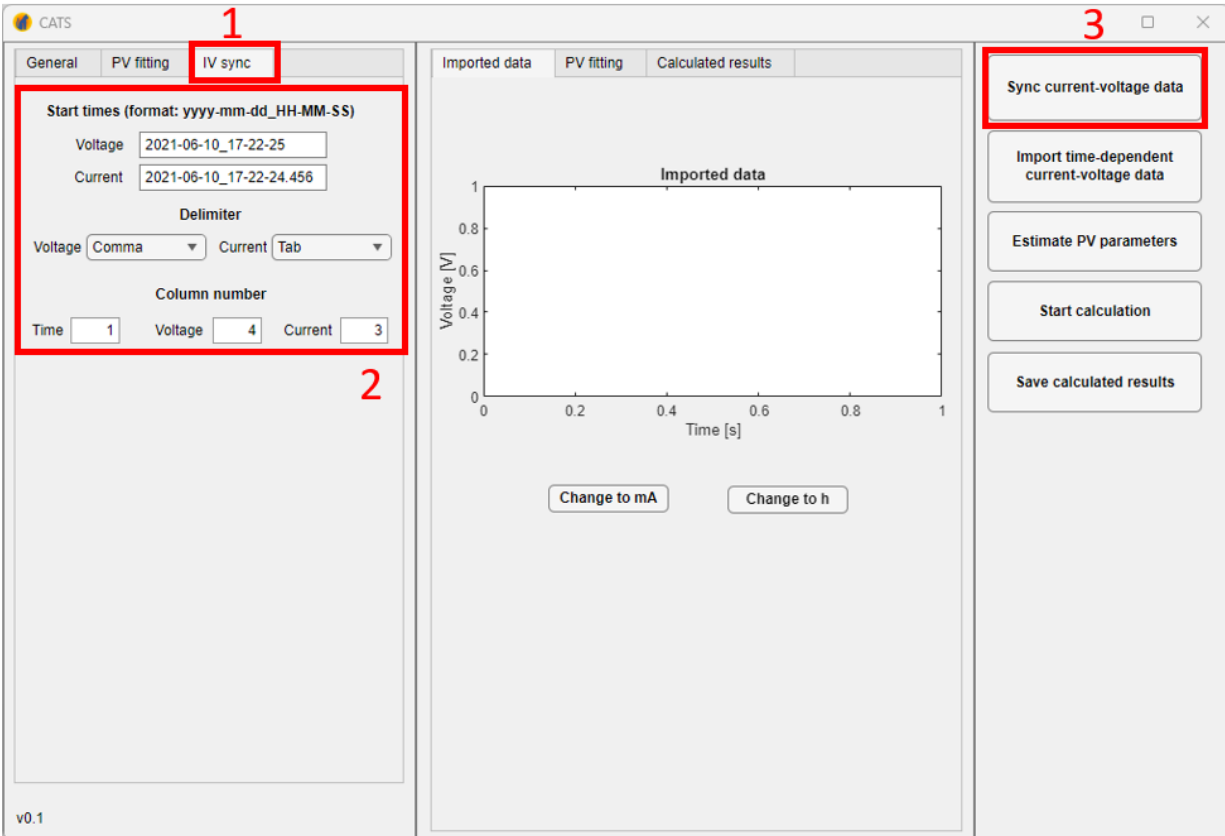

Figure 1. Synchronize current and voltage data
1. If the recorded current and voltage data are saved in separate files and need to be synchronized to a common timescale first, go to the IV sync tab on the left (**Figure 1**).